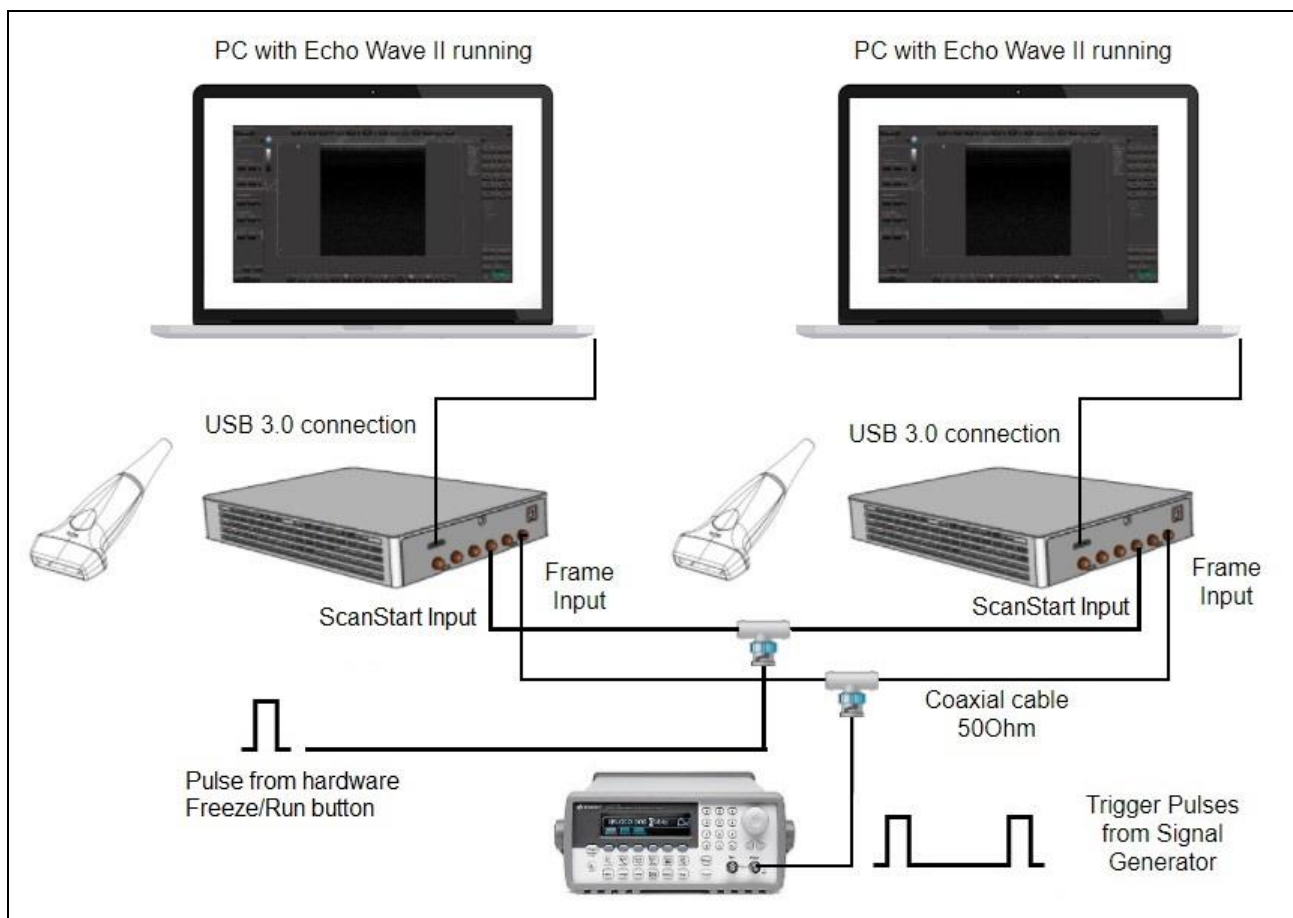

Figure 1 Twin ArtUs with 2 PCs
2. Connect the Signal Generator to both ArtUs devices as shown in **Figure 1 Twin ArtUs with 2 PCs** using 50 Ohm coaxial cables and appropriate connectors. ArtUs has SMA50 connectors for coaxial cable attachment
3. Connect the hardware Freeze/Run button to ScanStart Inputs of both ArtUs devices as shown in **Figure 1**